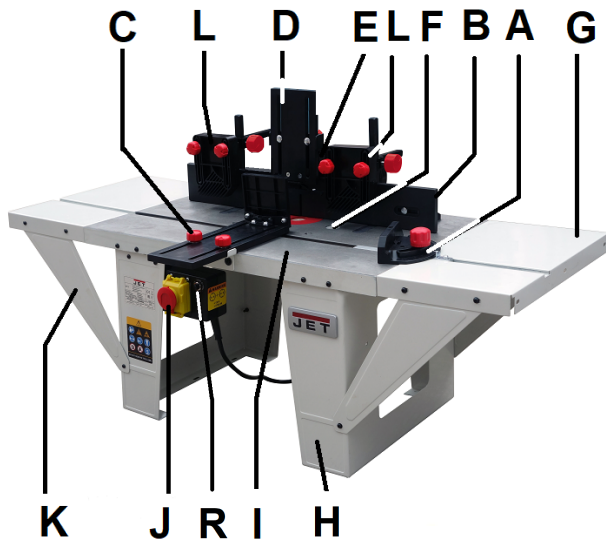

Fig 1
Attach the switch (J, Fig 1) with 2 screws.
Attach the table extensions (G, Fig 1) and supports (K) with pan head screws and nuts.